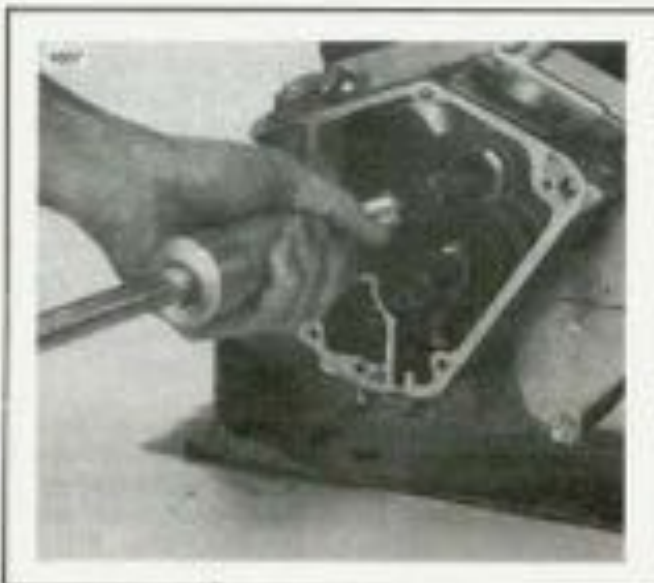

Figure 3-31. Removing and Installing Cam Gear Needle Bearing
8. Inspect needle bearing (35) for wear, broken or puffed bearings. If end of cam shaft shows any appreciable wear (0.003 in. or more), needle bearing is probably worn to a point where replacement of bearing and cam shaft are advisable.
9. Needle bearing can be removed and installed in crankcase without disassembling crankcase using PULLER TOOL, Part No. HD-95760-69, as shown in Figure 3-31. Press needle roller bearing into crankcase with NEEDLE BEARING TOOL, Part No. HD-97272-60, as shown in Figure 3-31. Press from heavier end having the manufacturer's name only.